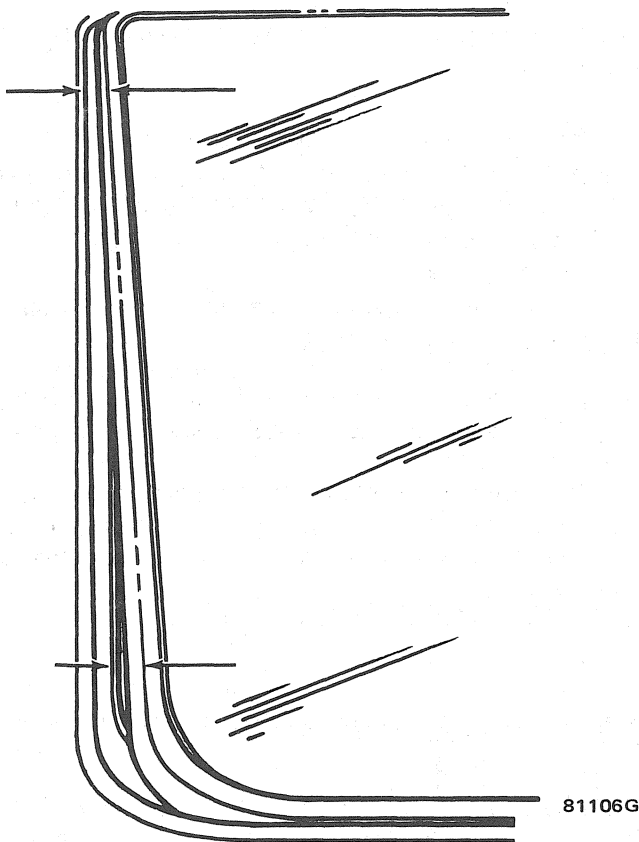

Fig. 3L-15 Glass Panel Parallel Alignment
(1) Remove halo assembly. Refer to Halo Assembly Removal.
(2) Loosen front guide shoe attaching screws (fig. 3L-16).
(3) Turn knurled nut on each front guide shoe clockwise to lower glass panel or counterclockwise to raise panel and obtain desired height adjustment (fig. 3L-16).
(4) Tighten front guide shoe attaching screws to 20 inch-pounds (2.3 Nm) torque after adjusting panel height.